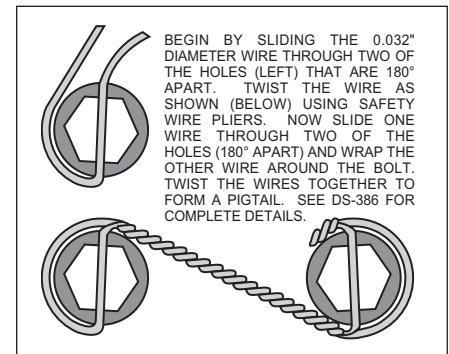

Figure 3. Safety Wire Diagram
- With the larger I.D. side of the rotor (7) facing away from the hat (8), attach rotor (7) to hat (8) using washers (9) and bolts (10) as shown in Figure 1. Using an alternating sequence, remove bolts (10) one at a time, apply red *Loctite*® 271 to the threads, and torque to 120-144 **in-lb**. Safety wire bolts (10) using standard 0.032 inch diameter stainless steel safety wire as shown in Figure 3. Please refer to Wilwood’s data sheet DS-386 (available at www.wilwood.com/Pdf/DataSheets/ds386.pdf) for complete safety wire installation instructions. Slide the rotor/hat assembly onto the axle hub. Install three wheel bolts (finger tighten) to keep the rotor/hat assembly in place while continuing with the installation.
- **NOTE:** Please reference the caution statement at the beginning of the assembly instructions. Install one shim (14) over each pre-installed stud (15) on the radial mount bracket (1). Slide the caliper (11) in place over the studs and rotors and install the washer (13) and lock nut (12) to hold the caliper in place. Snug the lock nuts (12) and check that the rotor (7) is centered in the caliper (11). Add or subtract .016" shims (5) as necessary between the bracket (1) and the spindle to center the caliper (11).
- Remove the caliper quick-clip pad retainer from the caliper. Slide the brake pads (16) into place. They should install easily without interference. Check that the outside radius of the brake pad is aligned with the outside diameter radius of the rotor face. Add or subtract shims (14) between the caliper and mount bracket to gain the proper alignment. Reinstall the quick-clip pad retainer.
- Once all clearances have been checked, remove the wheel, caliper, hat, and rotor from the spindle and hub. Secure the caliper mounting bracket (1) to the spindle with bolt (3) using red *Loctite*® 271. Torque the bolts to 75 ft-lbs. Reinstall the hat and rotor assembly and again use several wheel bolts to hold it in place. Lubricate caliper mounting studs and nuts with lightweight oil, reinstall the caliper, torque the caliper nuts (12) to 30-35 ft-lb.